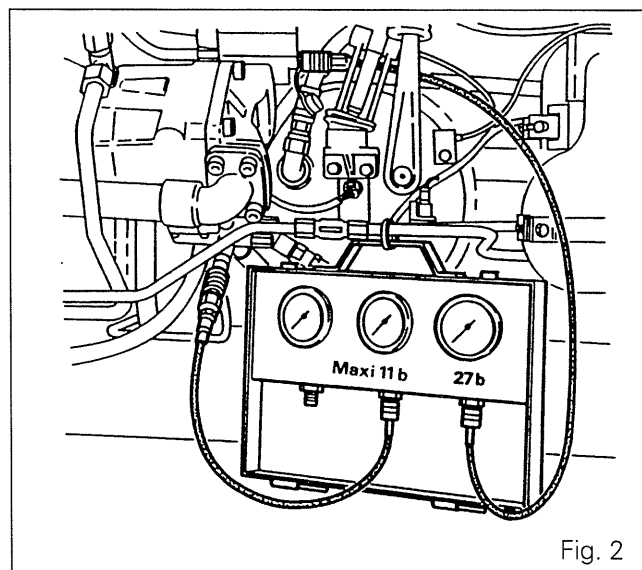

Fig. 2
- Connect a pressure gauge to each diagnostic connector (Fig. 2) located: